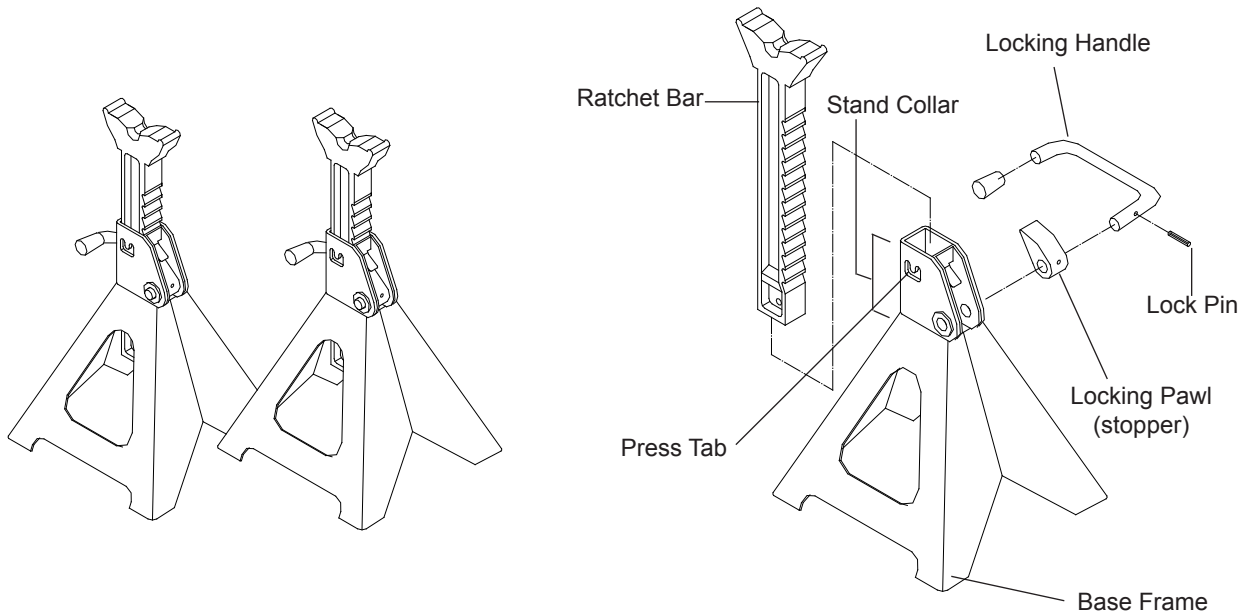

Figure 1 - BH5030 & BH5060 Components (BH5060 shown)
2. Verify that the product and the application are compatible, if in doubt call Blackhawk Automotive Technical Service (816) 891-6390.
6. a. For Model BH5030 & BH5060: Ratchet/ collar lock is accomplished by simply pressing the press tab (Fig.1) inward using a suitable hammer and punch.